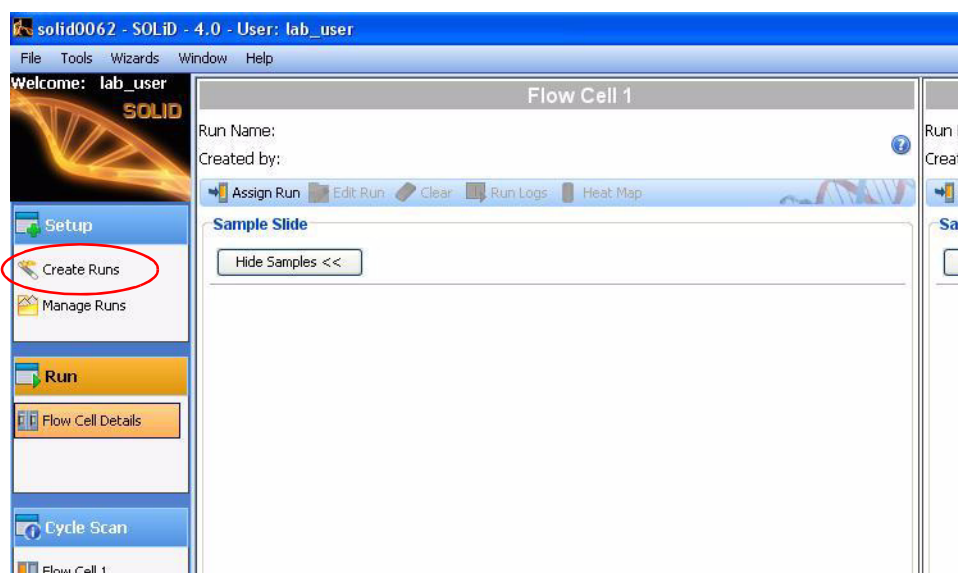

Figure 40 Use the run wizard to create a sequencing run.
1. Click **Create Runs** in the Setup task pane on the left menu pane of the ICS (see Figure 40).